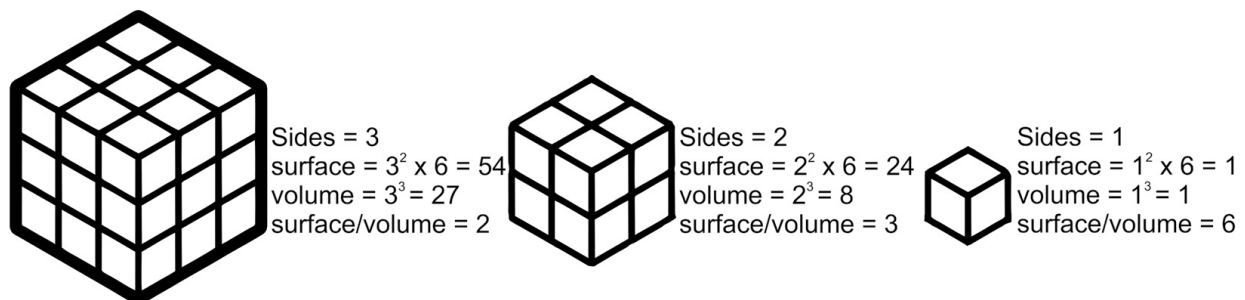

Fig 7.20 Variation of surface to volume ratio
- **Increased relative surface area.** As shown in following Fig that the surface to volume ration increases when we take particle in smaller dimensions (Fig 7.20).